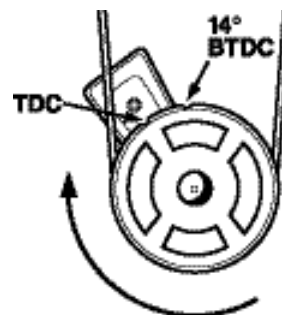

Figure 14: Timing Marks
- e. The crankshaft pulley notch mark for 13° Before Top Dead Center (BTDC) should now align with the timing pointer (Figure 14). If it does not, the injection pump needs to be timed.